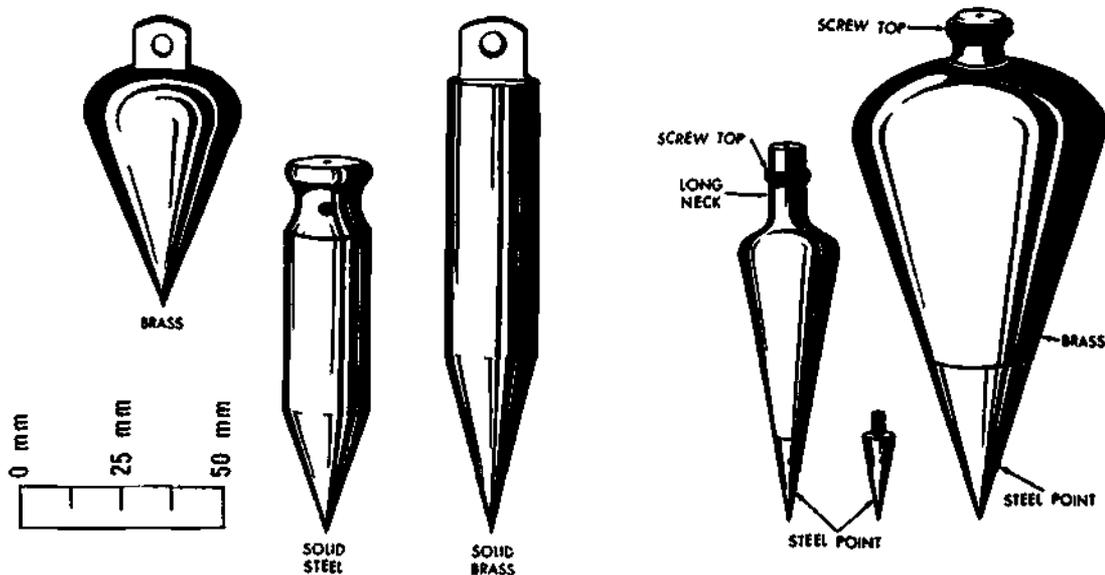

Figure 1-126. Various Plumb Bobs
b) Shown in Figure 1-126 are different types of plumb bobs.